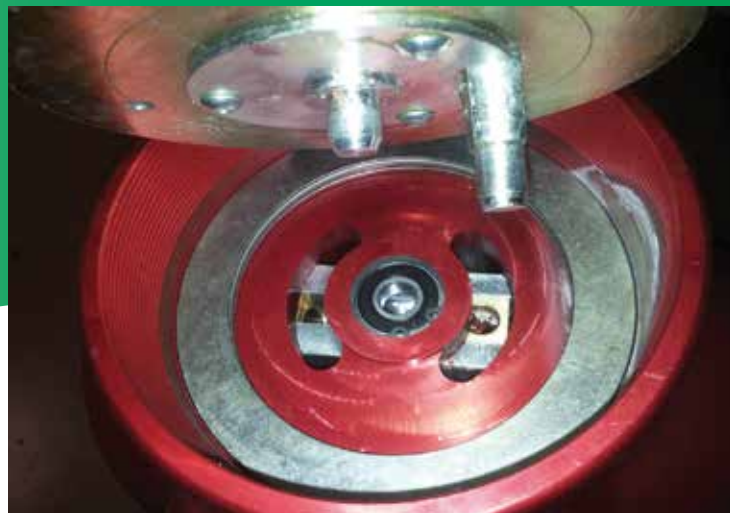

fig. 2 Step 2 Insert the blade into the seat
During the propeller assembly, this central pivot is housed in the bearing / bushing placed in the body of the hub, at the center of the blade seat (see Fig. 2)
-Insertion and fixing of the blades in the respective seats numbered (fig.2)